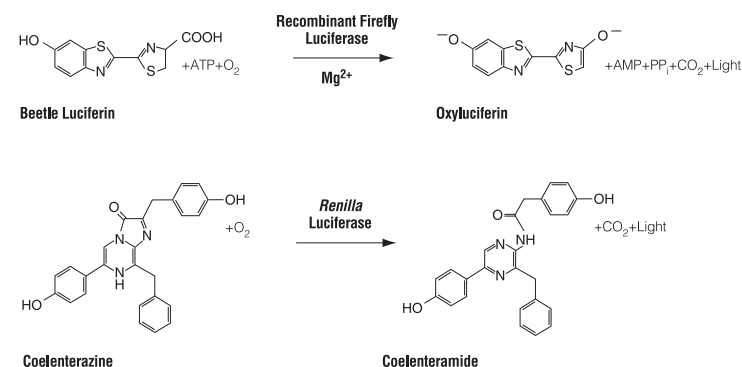

Figure 1. Bioluminescent reactions catalyzed by firefly and *Renilla* luciferases.
Firefly luciferase is a 61kDa monomeric protein that does not require post-translational processing for enzymatic activity (1,2). Thus, it functions as a genetic reporter immediately upon translation. Photon emission is achieved through oxidation of beetle luciferin in a reaction that requires ATP, Mg2+ and O2 (Figure 1). Under conventional reaction conditions, the oxidation occurs through a luciferyl-AMP intermediate that turns over very slowly. As a result, this assay chemistry generates a “flash” of light that rapidly decays after the substrate and enzyme are mixed.
*Renilla* luciferase, a 36kDa monomeric protein, is composed of 3% carbohydrate when purified from its natural source, *Renilla reniformis* (4). However, like firefly luciferase, post-translational modification is not required for its activity, and the enzyme may function as a genetic reporter immediately following translation. The luminescent reaction catalyzed by *Renilla* luciferase utilizes O2 and coelenterate-luciferin (coelenterazine; Figure 1).